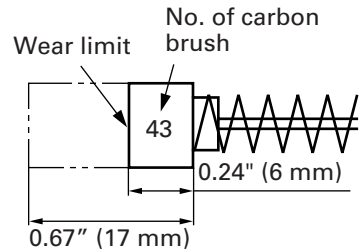

Fig. 24
4. Inspecting the carbon brushes (Fig. 24)
NOTE: Use metabo HPT carbon brush No. 43 indicated in Fig. 24.